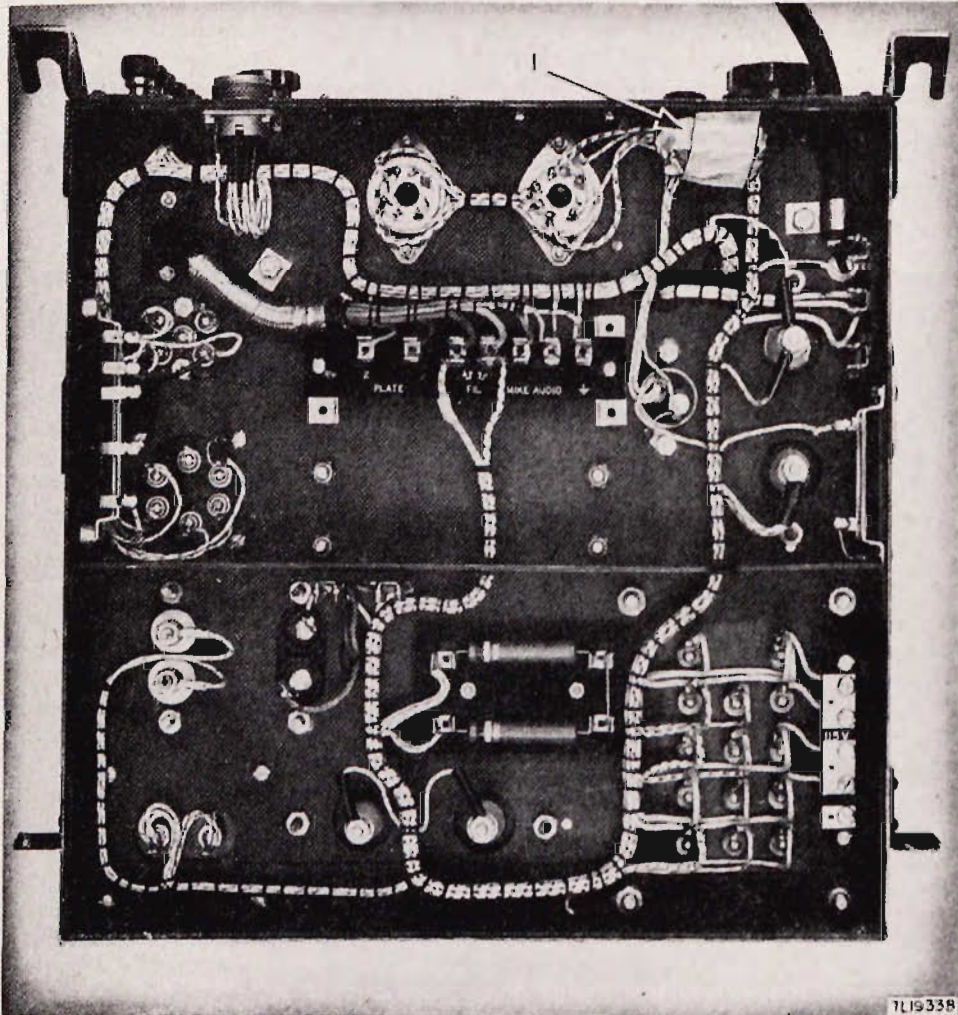

Figure 69. Power Supply PP-115/TRC-8 (XC-3),
- (1) Mask microphone and headset jacks (item 1, fig. 69).